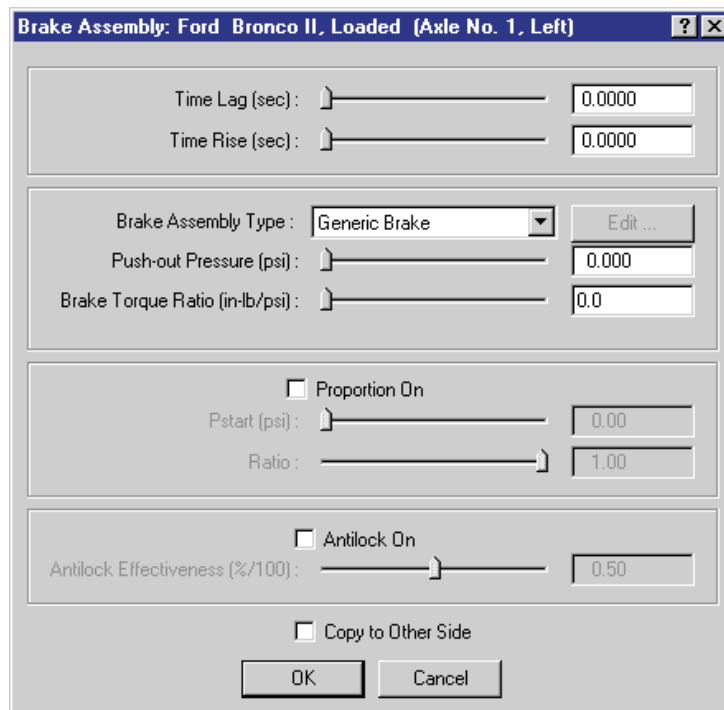

Figure 5-6 Wheel Brake dialog, used for editing the brake parameters for the left front wheel.
- In the *Torque Ratio* data field, replace the existing value, 27.66 in-lb/psi, with the desired value, 0.0, to disable the left front brake. The dialog now appears as shown in Figure 5-6.